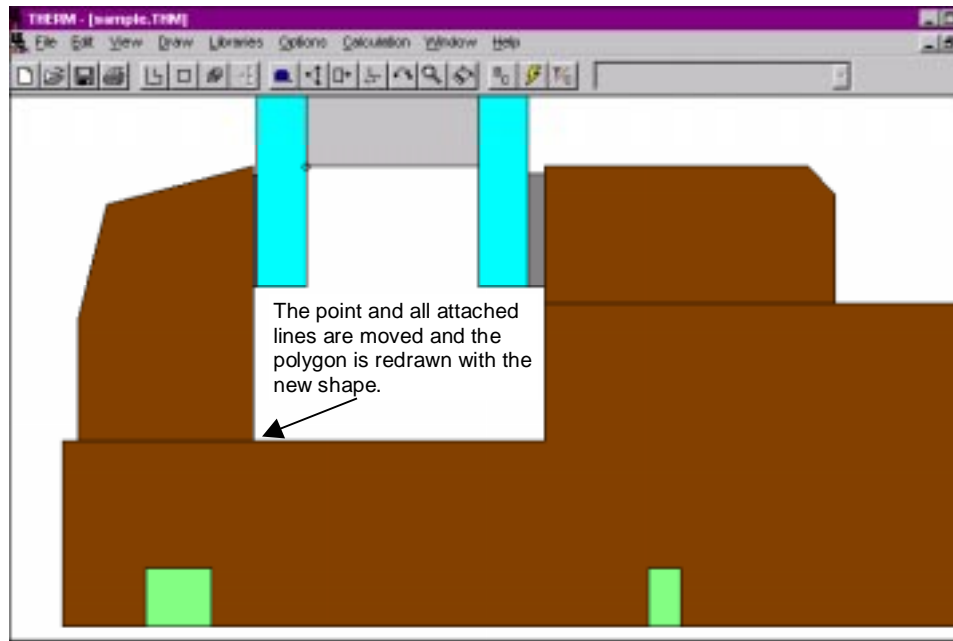

Figure 8-39. THERM will move the point and the lines attached to that point and redraw the cross section with the new geometry.
- The point and attached lines are moved, and the polygon is redrawn, as shown in Figure 8-39.